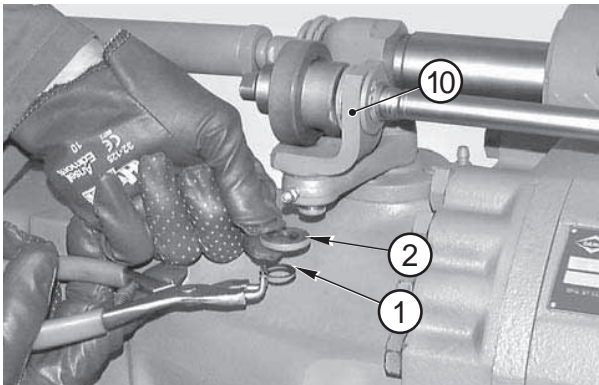

**FIGURE 17:** Lock stud (16) in this position with nut (15). Torque wrench setting: 20 - 25 N-m.
**FIGURE 17:** Connect the tension rod to the press and move the thrust block of the external bearing (13) into its seat. Disconnect the press and remove the tension rod.
**FIGURE 17:** Rotate stem (6) to center the hole of the fulcrum pin (3). Apply Loctite 242 to the thread of the fulcrum pin (3), screw and tighten pin with a torque wrench set to 25 - 30 N·m.